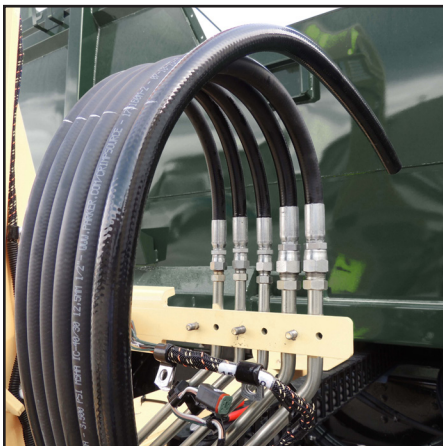

Figure 5
8. At the upper portion of the hose assembly, disconnect all five hoses from their fittings using a 1" wrench and an 11/16" wrench (Figure 5).